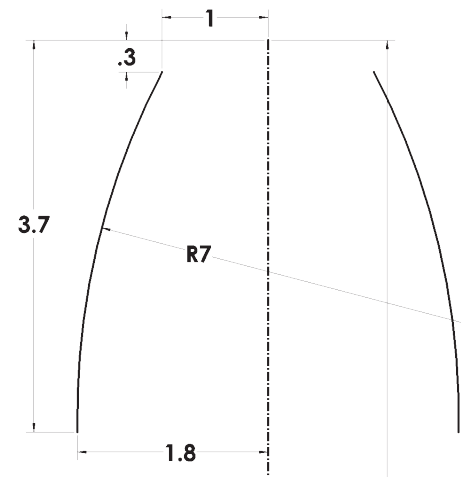

Fig. 7
Step 3. Click **Mirror Entities**  on the Sketch toolbar, **Fig. 7**.